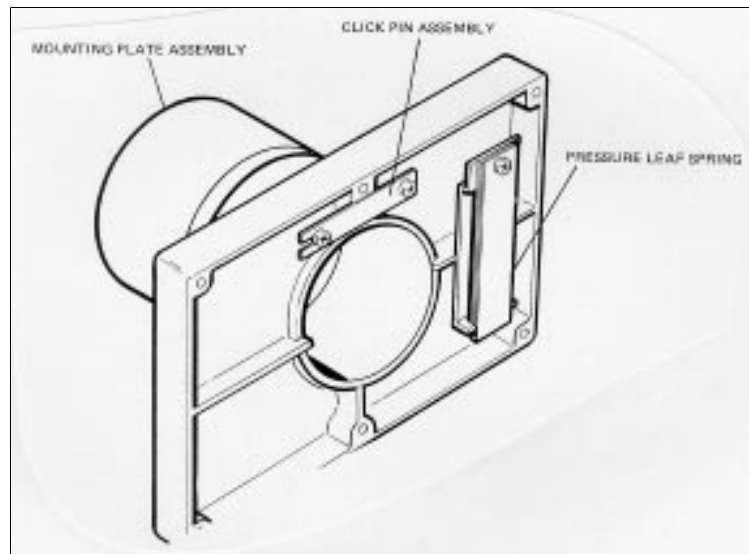

Figure 5-9. Bellows Mounting Plate Assembly
2) Remove the six screws holding the mounting plate assembly (figure 5-9) to the bellows frame and remove the mounting plate.
- 1) Lubricate the leaf spring where it contacts the bushings with Dow-Corning #D-55 Silicone Lubricant (see figure 5-9).
7) Lubricate the leaf spring where it contacts the bushings with Dow-Corning #D-55 Silicone Lubricant (see figure 5-9).